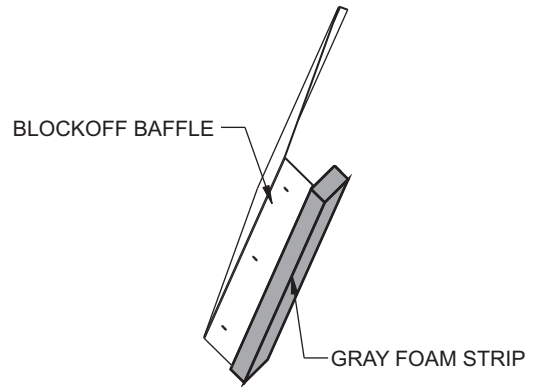

Fig. 31 — Adding Foam Strip to Block-Off Baffle
7. Attach gray foam strip (provided) to block-off baffle on outer face of flange. See Fig. 31.